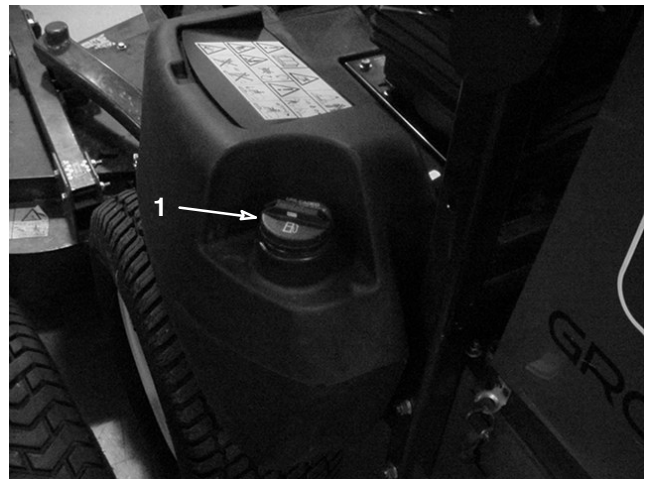

Figure 17
2. Remove cap from the fuel tank (Fig. 17).